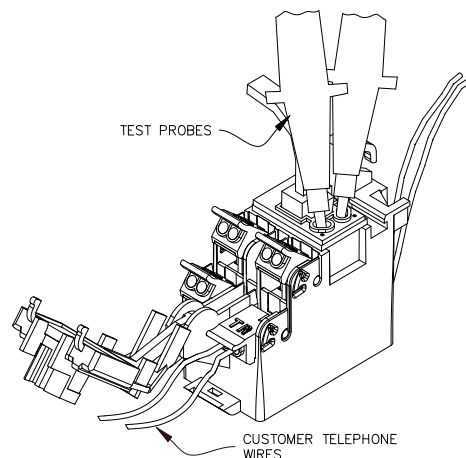

Figure 5
- Press thumb firmly on rocker until it snaps shut. Route wires under lid (Figure 5). Repeat as required.